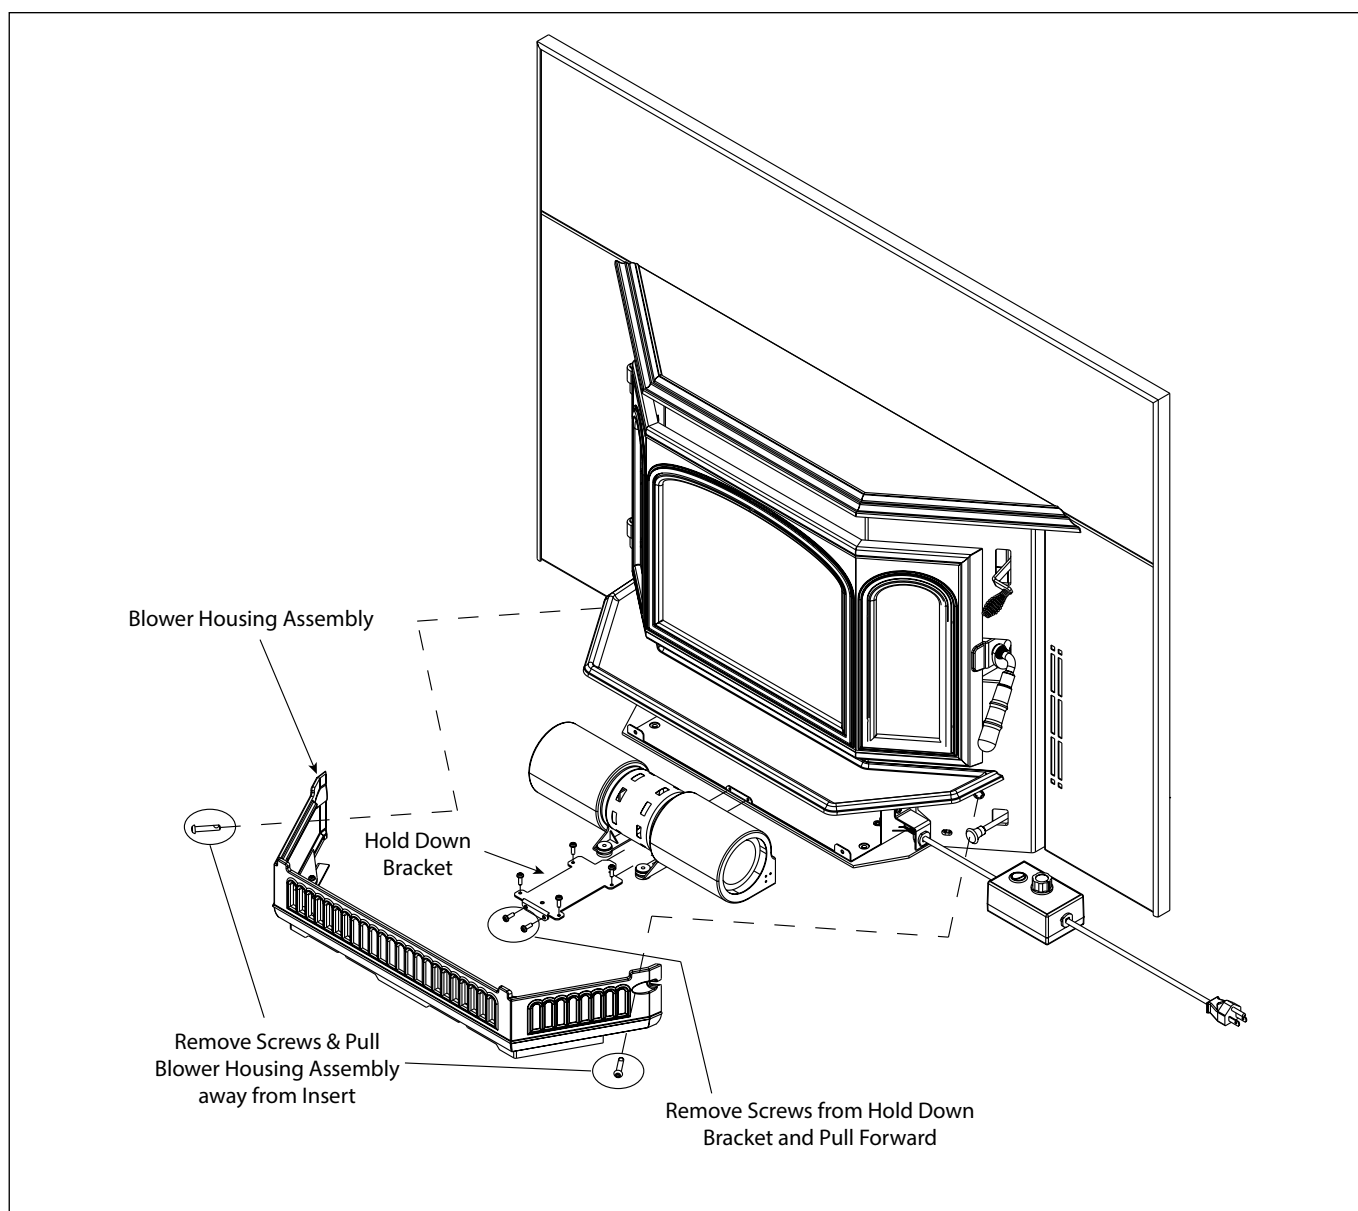

Figure 23.1
1. Remove the 2 screws from the Blower Housing Assembly using a 5/32 allen wrench. **Figure 23.1.**